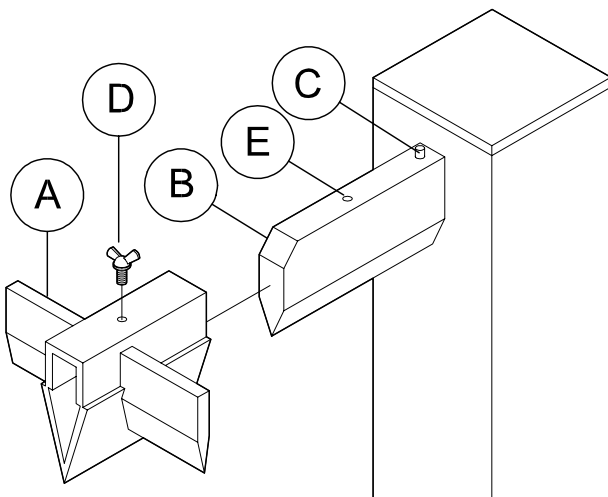

Fig. 16 Assembly of the 4-way wedge
The 4-way wedge (A in fig. 16) must be assembled directly on the standard 2-way wedge (B).